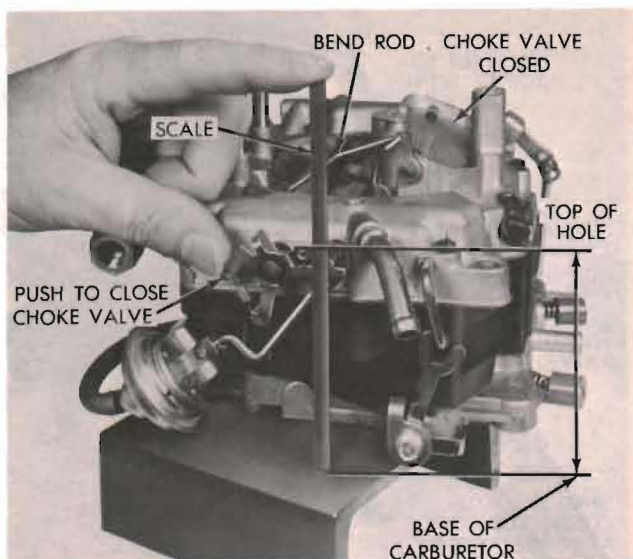

Figure 22. Adjusting Choke Control Lever
- (1) Off vehicle — place the carburetor on flat object with surface flush against bottom of flange and extending out under the choke control lever.
- (2) On vehicle — remove the choke assembly, stainless steel cup and gasket.
- (3) Close the choke valve by pushing on choke lever, with throttle partially open.
- (4) Measure the vertical distance from top of rod hole in control lever down to the flat surface simulating carburetor bottom (off vehicle) or down to clean choke pad surface (on vehicle).
- (5) This dimension (on or off the vehicle) should be as specified for the particular carburetor being serviced. (See figure 22.)
- (6) Adjust by bending the link connecting the two choke shafts as indicated. (See figure 22.)